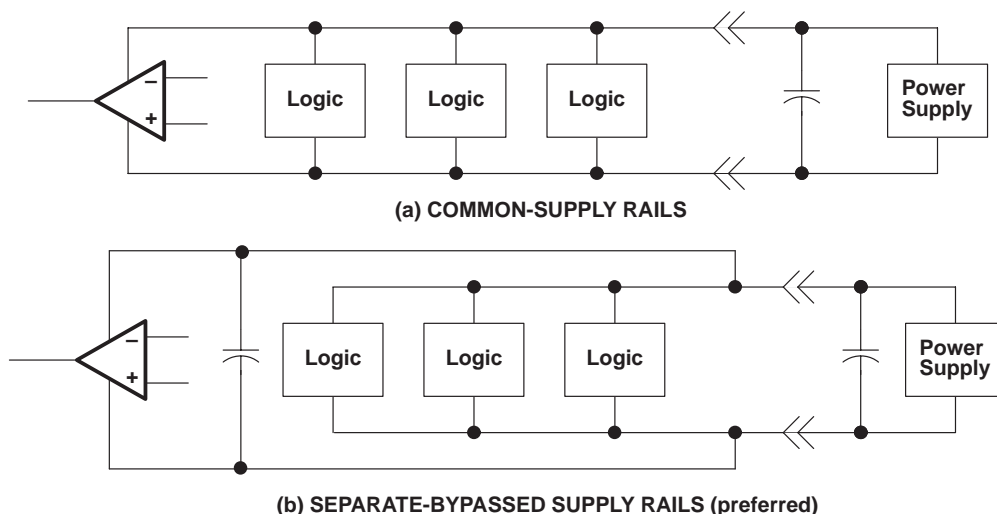

Figure 98. Common Versus Separate Supply Rails
- Power the linear devices from separate bypassed supply lines (see Figure 98); otherwise, the linear device supply rails can fluctuate due to voltage drops caused by high switching currents in the digital logic.